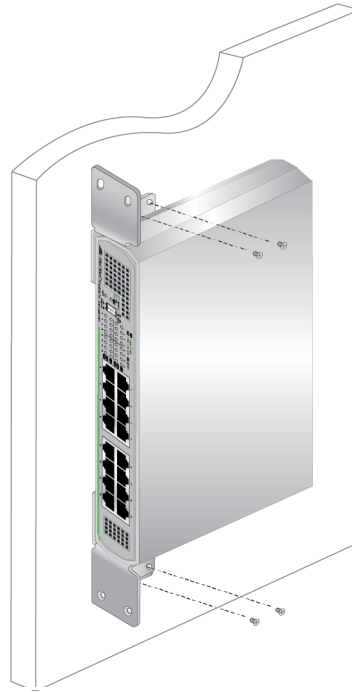

Figure 20. Driving the Screws through the Holes
7. Position the switch on the wall and drive screws through the holes to attach the brackets on the wall. See Figure 20.